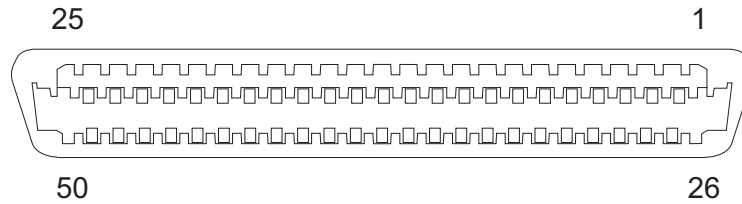

Figure 22. RJ21 connector 0/0–0/23
**Connector A** (ports 0/0–0/23) (see figure 22 and table 12).